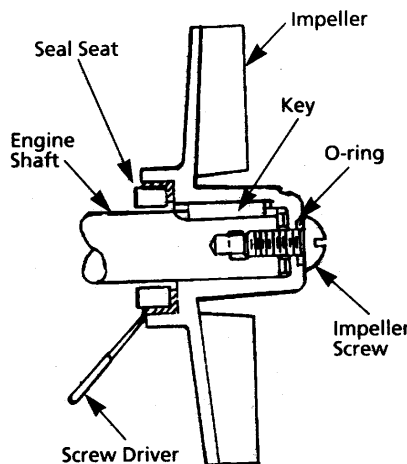

Figure 1 – Mechanical Seal Replacement
Refer to Figures 1 and 2.
3. Pry seal seat (Ref. No. 13) from impeller recess with a screwdriver (See Figure 1).